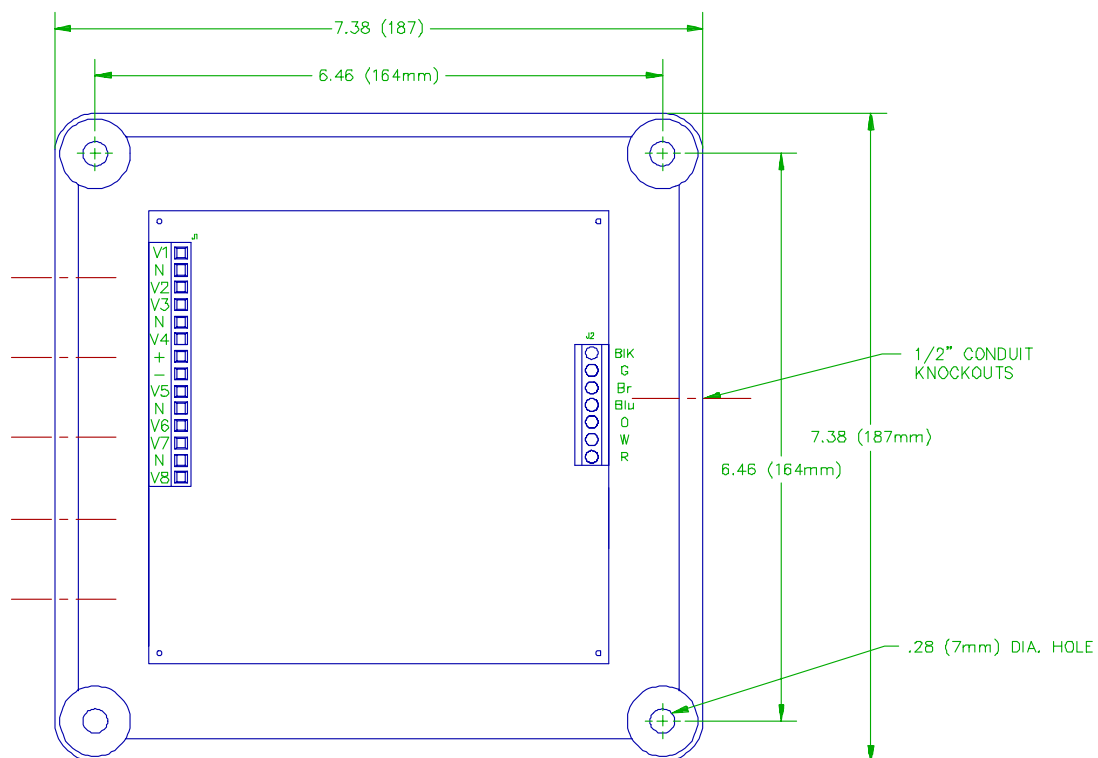

Figure 14 - Remote Valve Board Enclosure Dimensions
Figure 14 shows mounting dimensions for the remote valve output board enclosure. This board is mounted remote when two (2) Plug-In Track & Hold Boards are used.